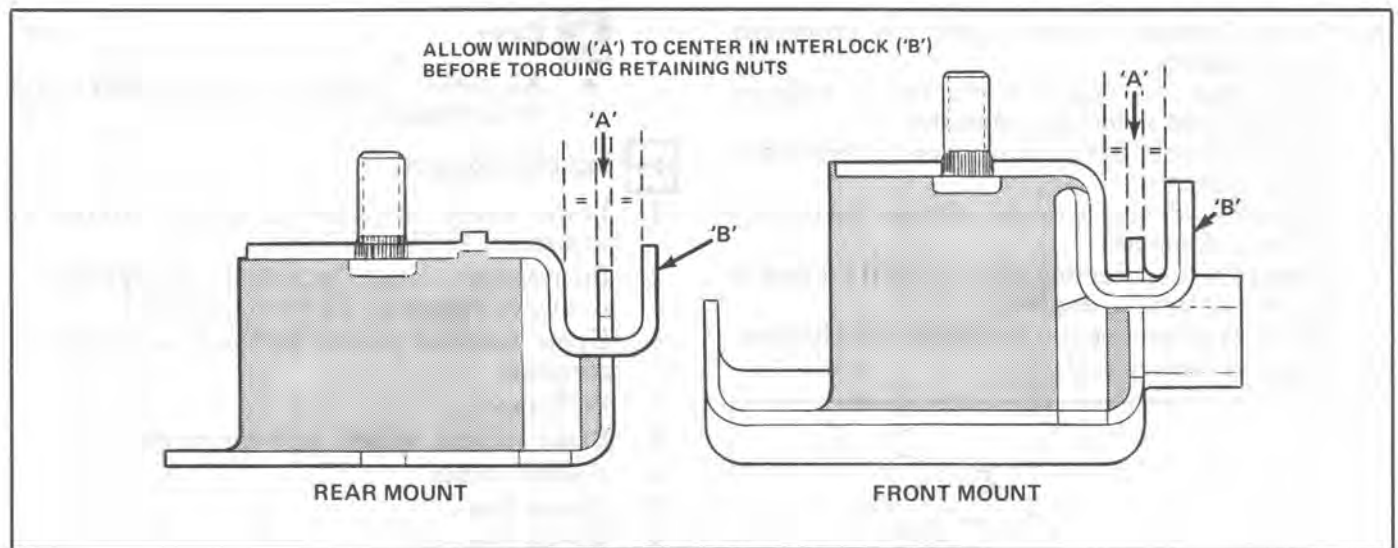

Fig. 7 Transaxle Mount Alignment
**NOTICE:** After engine mount is properly installed, observe both transaxle mounts for proper alignment (Figure 7). If window "A" is not properly located, loosen the mount to cradle retaining nuts and allow the mount to reposition itself. If allowed to remain out of position, drive train component failure could occur.